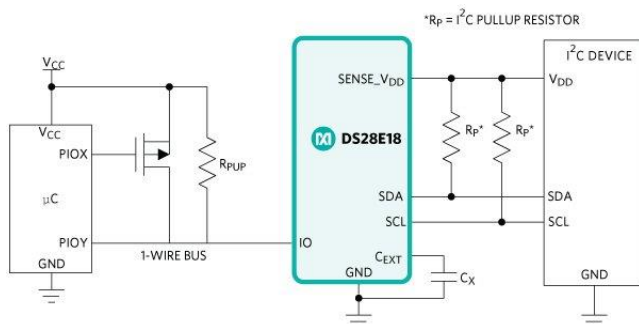
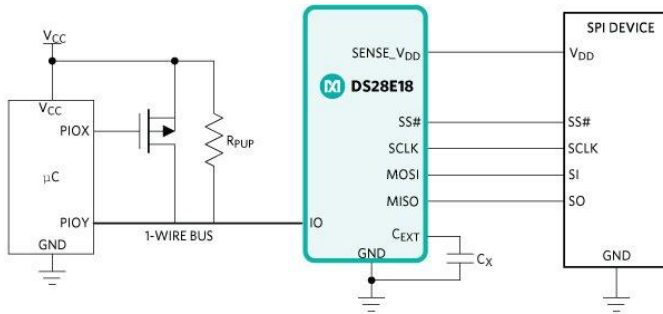

Figure 1. Single DS28E18-based system with a connected I2C device.
Figure 2. Single DS28E18-based system with a connected SPI device.
- A solitary DS28E18 connected to a 1-Wire controller (Figures 1 and 2). Figure 1 shows an I2C device and **Figure 2** an SPI device.